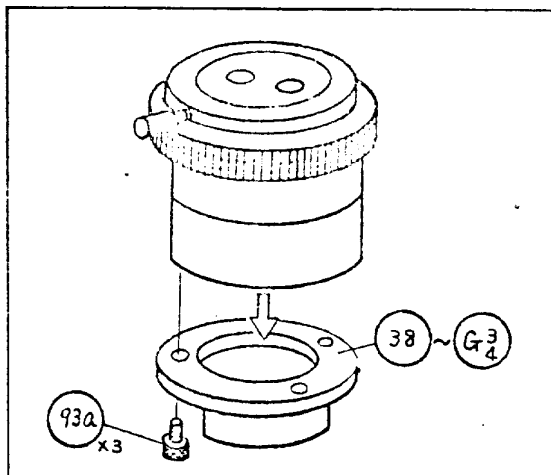

Fig. 39
- 1) Unscrewing the screws (93a)  $\times 3$ , remove the lens cell (38) with the lenses (G1, 2) ~ (G3, 4) (Fig. 39)